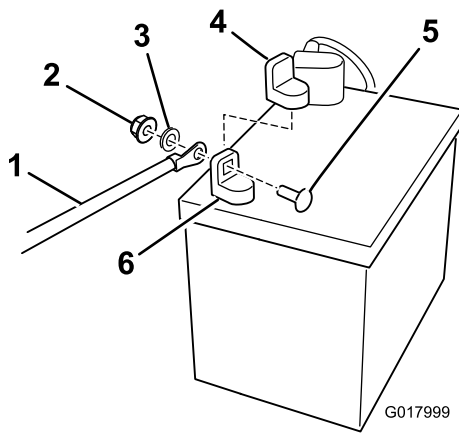

Figure 1
3. Remove the fasteners on the negative battery cable and use them to secure the negative battery cable to the negative battery post (Figure 1).